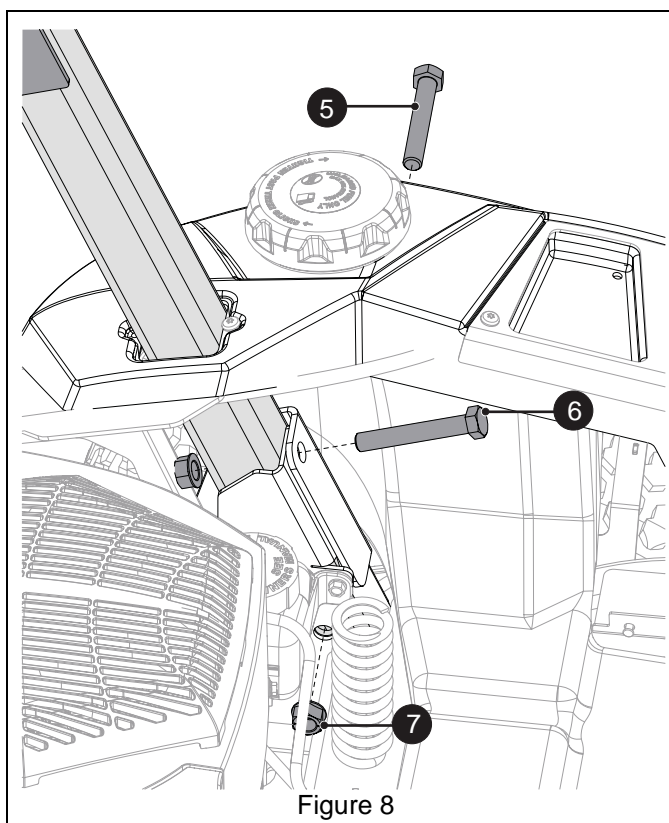

Figure 8
10. Attach bagger support with one 1/2" x 3 1/4" hex bolt (item 6), one 1/2" x 3" hex bolt (item 5) and two 1/2" top-lock flange nuts (item 7). Fully tighten hardware. See Figure 8.